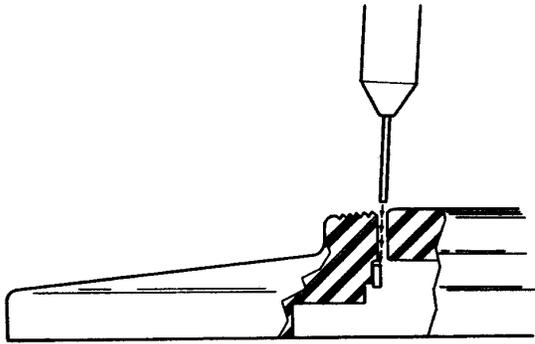

Figure 4a. Insertion. End of Standard Escutcheon Tool Engages Edge of Latching Tab and Forces it Downward.
- (1) Using a standard fingerplate removal tool, H-886316-1 (or paperclip) insert the end into the small hole located in the ribbed area of the fingerwheel surrounding the number card just adjacent to the 6/MNO hole.
- (2) The end of the tool must enter at a slight angle aimed toward the 6/MNO finger hole. Once the end is seated against the latching lug (see Figure 4a), push gently downward on the tool until the lug is down and out of its latching detent (see Figure 4b).